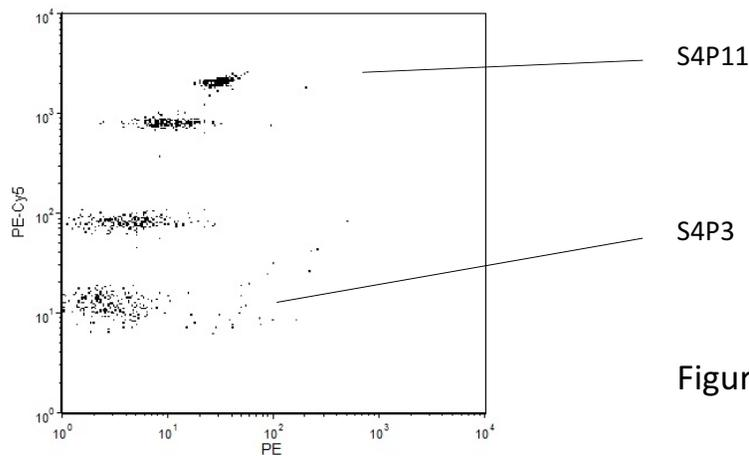

Figure 2
- 5) Adjust "PE-Cy5" PMT voltage so that all bead populations are clearly separated on the histograms and dot plots (Figure 2).
- 6) Adjust PE PMT voltage so that the dimmest bead population is positioned within the first decade on the PE-axis of the plot (Figure 2).